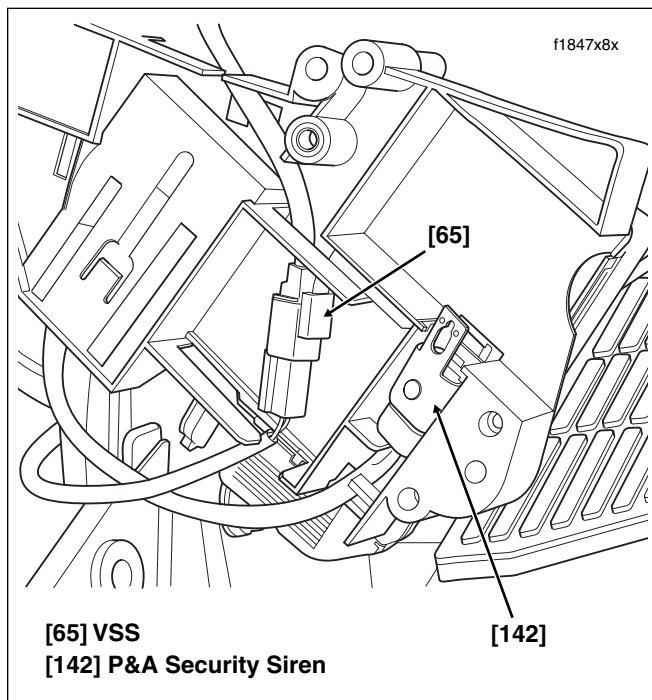

Figure 8-161. Electrical Bracket (Inboard Side)
- e. On inboard side of electrical bracket, disconnect VSS connector [65]. See Figure 8-161. Release connector and conduit from electrical bracket.
- On inboard side of electrical bracket, disconnect VSS connector [65]. See Figure 8-161. Release connector and conduit from electrical bracket.